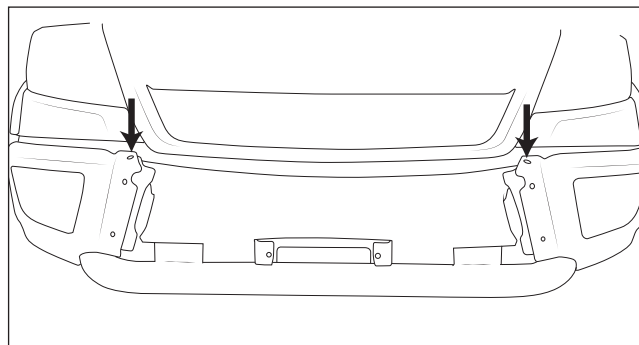

Figure 4
3. Remove the cage nuts from the top two mounting holes (fig.4).